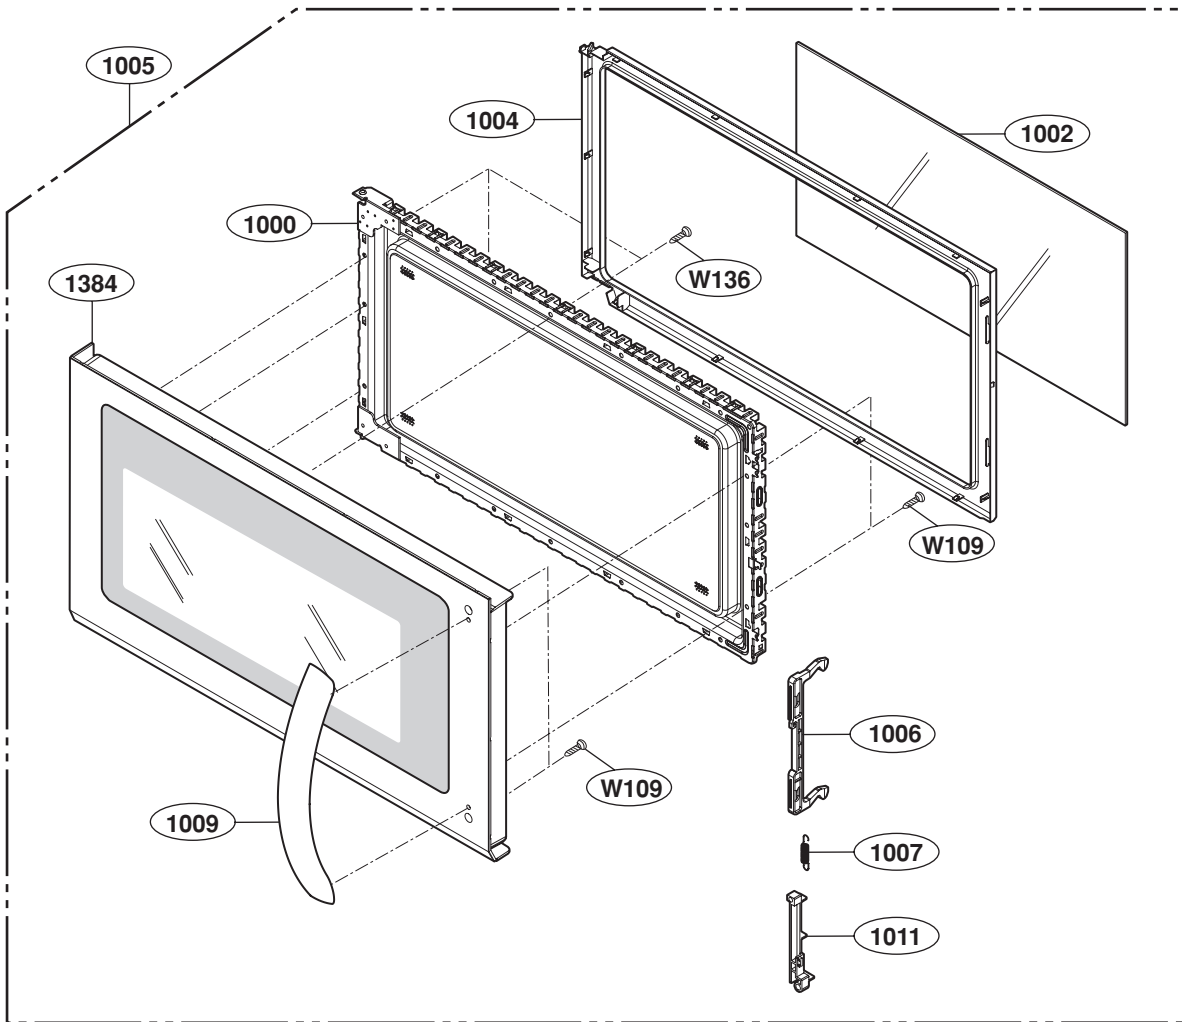

**Figure 22**
- (1) Remove the sensor by removing two screws in front of the lamp cover & removing one screw securing it to the air duct. (See Figure 22)
- (2) Mount the new humidity sensor to the air duct.